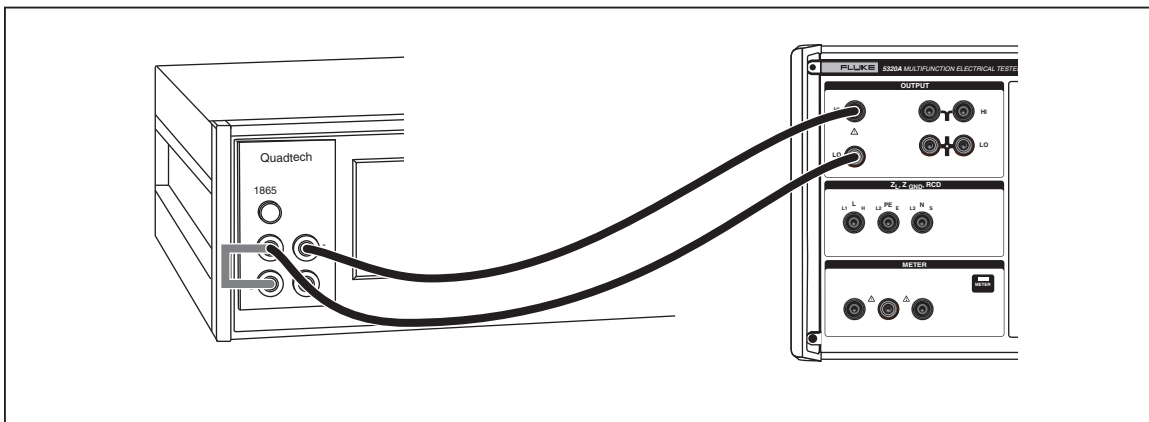

Figure 3-27. High Resistance Source (>10 MΩ) Calibration Connections
5. Connect the Calibrator directly to the megohmmeter as shown in Figure 3-27.